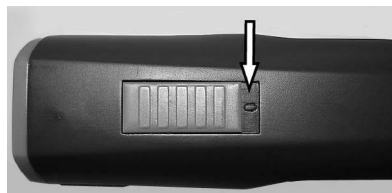

Fig. 4 Switch in OFF-position ("0")
1. Test the contacts of the clipper (1) and the battery (2) for foreign particles and contamination.
2. Assure, that the switch lever of the clipper is in OFF-position ("0") (fig. 4).
3. Insert the battery (2) in the clipper (3), until the battery interlock (1) is engaged on both sides.
4. Put the clipper with the inserted battery (1) or spare battery (2) from above without force into the provided charging cavity of the charging station.
6. Battery is charging. During the charging time the control light is illuminating red (3). As soon as the battery has been charged to a min. 90%, the indicator lamp will change to green and the charging station switch to "trickle charging".
7. Hold the charger firmly with one hand and pull the clipper (1) or the battery (2) out with the other.
1. Move the switch to position "0" (fig. 4).
2. Push the battery interlock (2) on both sides inward and pull the battery (1) out of the clipper.
3. Insert charged battery (1) into the shearer (2), until the battery lock is locked in on both sides.